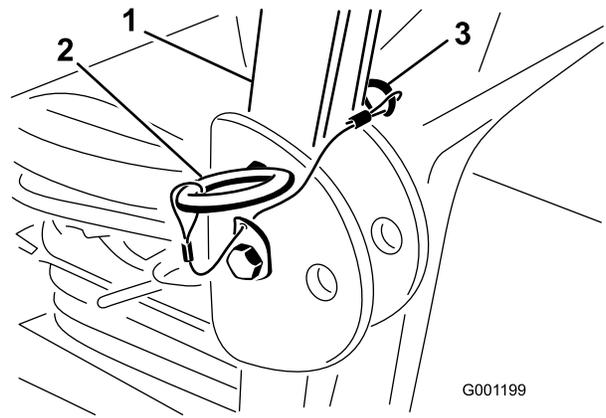

Figure 8
- Raise the roll bar to the upright position and install the two pins and secure them with the hairpin cotter pins (Figure 8).
- Remove the hairpin cotter pins and remove the two pins from the roll bar (Figure 8).